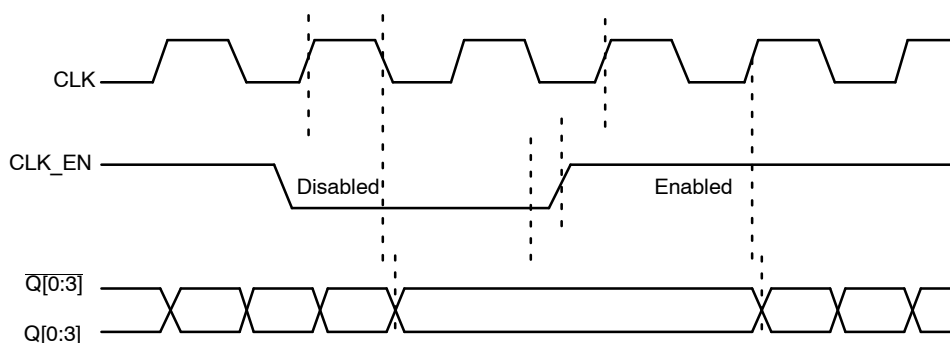

Figure 3. CLK_EN Timing Diagram
1. After CLK_EN switches, the clock outputs are disabled or enabled following a rising and falling input clock edge as show in Figure 3.